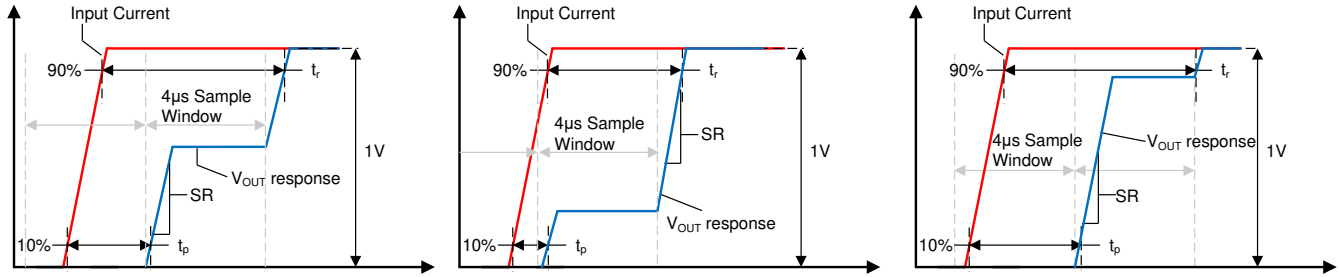

Figure 7-3. Small Current Input Step Transient Response
Slew rate (SR) is defined as the  $V_{OUT}$  rate of change for a single integration step output transition, as shown in Figure 7-3. Because the device often requires two sampling windows to reach a full 90% settling of the final value, this slew rate is not equal to the 10%-90% transition time for the full output swing.
Propagation delay is the time period between the input current waveform reaching 10% of the final value and  $V_{OUT}$  reaching 10% of the final value. This propagation delay is heavily dependent upon the alignment of the input current step and the sampling period of the TMCS1101-Q1, as shown for several different sampling window cases in Figure 7-3.
Response time is the time period between the input current reaching 90% of the final value and the output reaching 90% of the final value, for an input current step sufficient to cause a 1V transition on the output. Figure 7-3 shows the response time of the TMCS1101-Q1 under three different time cases. Unless a step input occurs directly during the beginning of one sampling interval the response time includes two sampling intervals.